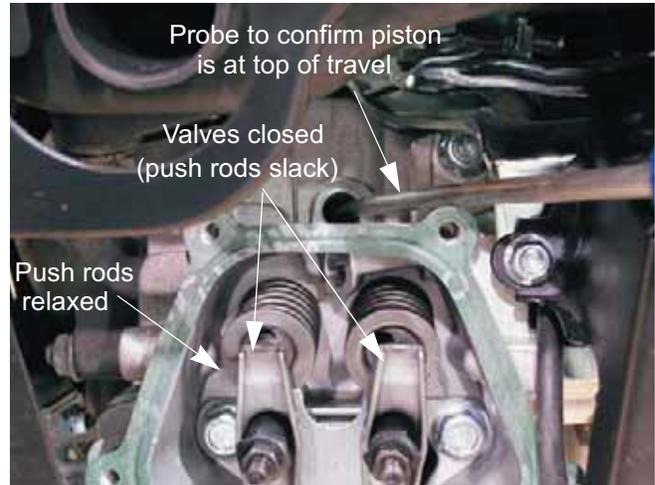

Figure 1.13
7. Confirm that the piston is at Top-Dead-Center on the compression stroke. See Figure 1.13.